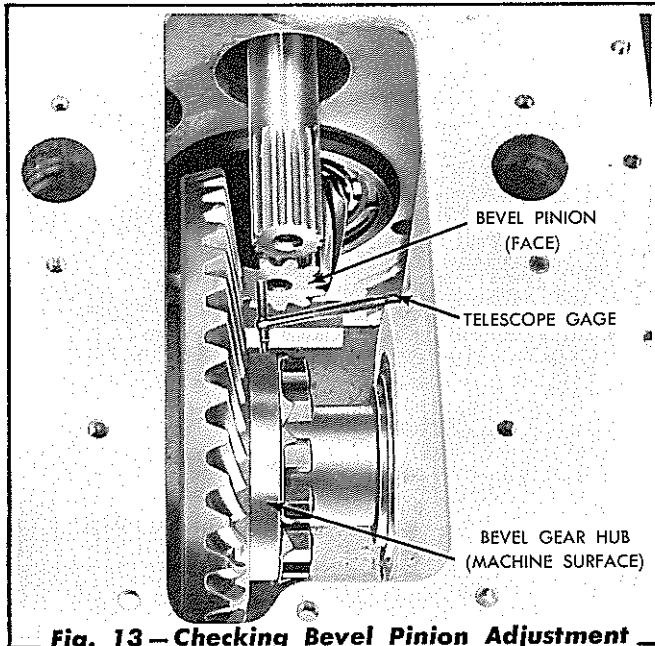

Fig. 13 — Checking Bevel Pinion Adjustment
10. To adjust the bevel pinion depth or mounting distance with the transmission installed in the tractor, refer to Fig. 13, and proceed as follows:
- b. To calculate this distance, divide the diameter of the bevel gear shaft attaching flange by two (2) and subtract this distance from the mounting distance marked on the toe end of the bevel pinion.